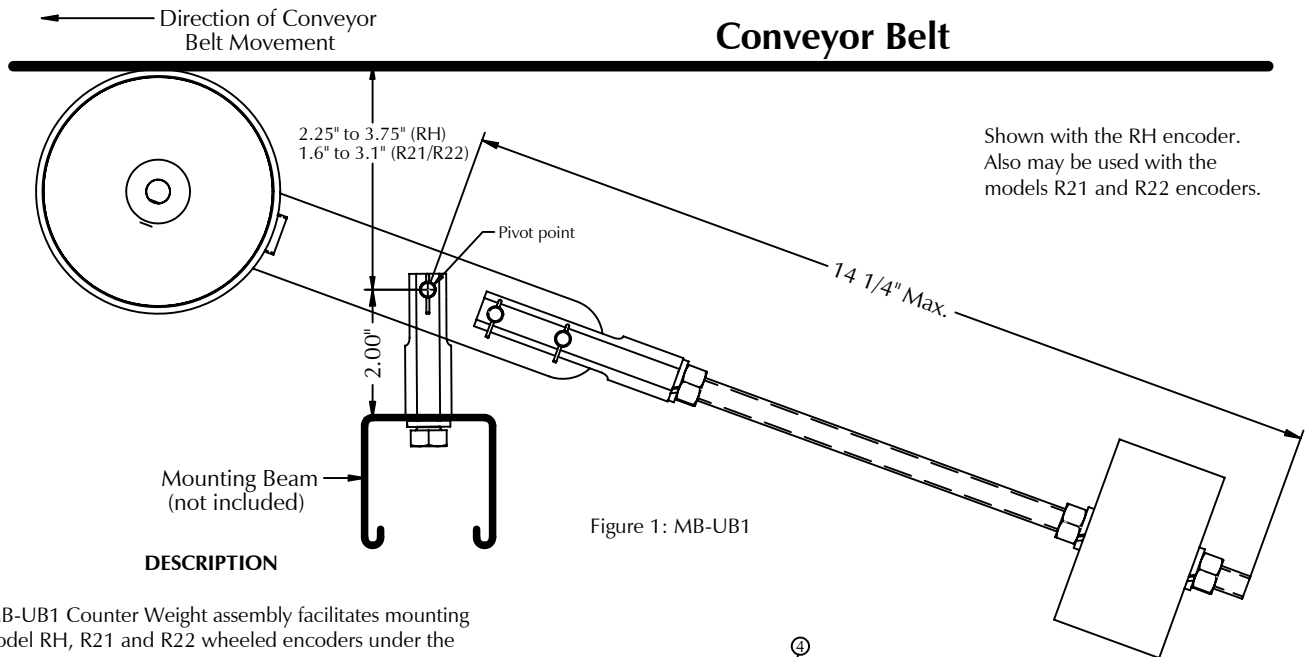

Figure 1: MB-UB1
The MB-UB1 Counter Weight assembly facilitates mounting the model RH, R21 and R22 wheeled encoders under the conveyor belt (or roller) as shown in figure 1. The Y-3 yoke provides a pivot point so the encoder wheels maintain contact and alignment with the belt, compensating for up/down and some sideways movement of the belt. Nylon washers are included to accommodate the thinner handle on the R21 and R22 wheeled encoders.
4. Bolt the Y-3 yoke to a mounting beam (not supplied) using the 3/8-16 bolt and lock washer. The Y-3 should be perpendicular to the conveyor belt with the pivot point below the conveyor belt as shown in figure 1, and positioned so the encoder is aligned with the belt. Caution: If the encoder is not aligned with the belt, premature wheel wear will result.